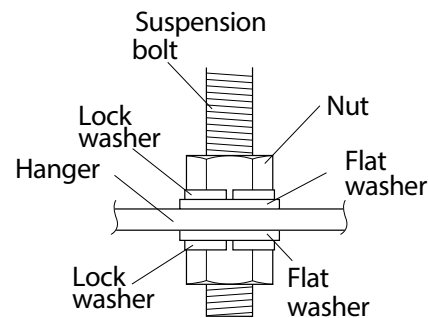

Figure 7: Detail of Securing Hanging Bolts
6. Refer to Figure 7. Secure the unit hangers on the hanging bolts with nuts, washers and lock washers.